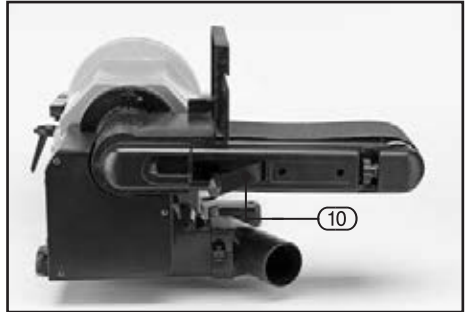

FIG.18
9.8 REPLACING THE SANDING BELT - FIG. 18